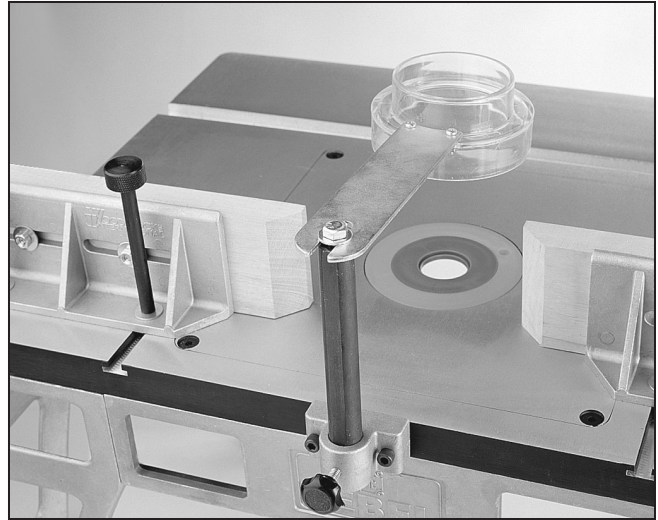

Figure 7. Safety guard installed.
Step 4 - Slide the slotted end of the safety guard arm under the washer and tighten the hex head bolt. **Figure 7.**